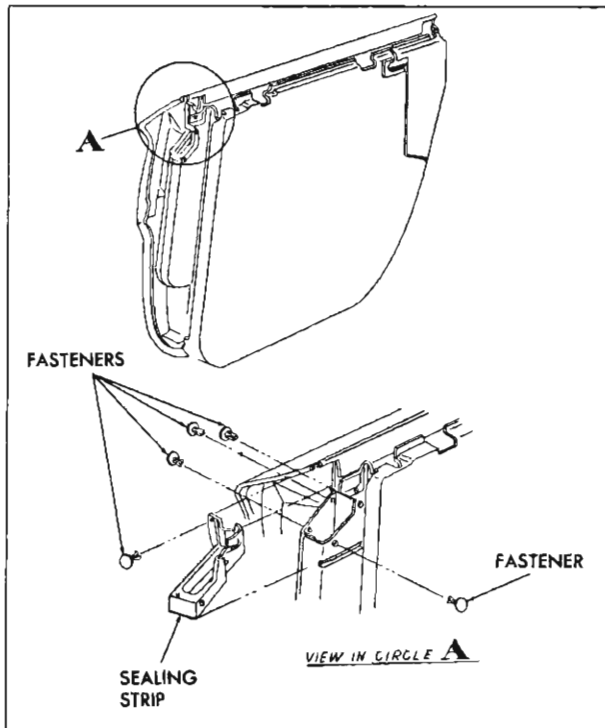

Fig. 37—Rear Door Hinge Pillar Sealing Strip
1. Remove snap fasteners securing sealing strip to hinge pillar facing of rear door and remove strip (fig. 37).